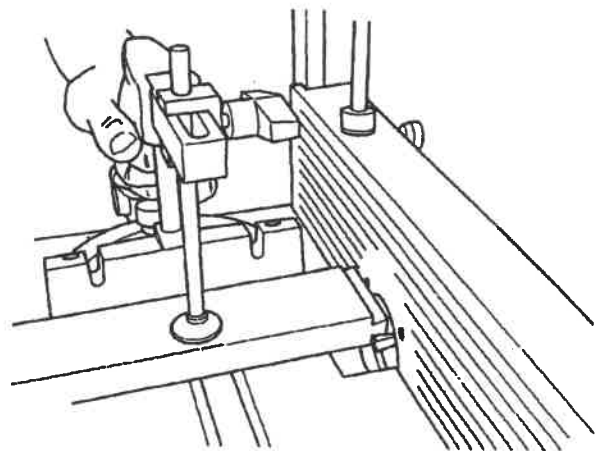

Fig. E-10
15. Turn on the Dust Collector and router. Make the cut for the bottom of the pin, as shown in Fig. E-10. If there is material remaining below the cut, lower the bit 2 or more turns, clean off this excess, then return the bit to its original position. Turn off the router and Dust Collector.